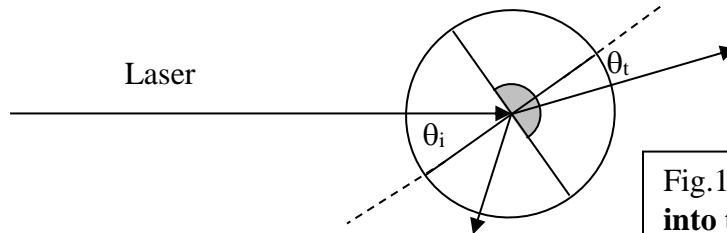

Fig.1. set-up for beam going **into** the denser medium
1. Place the half-cylinder as shown in Fig 1 on the rotation table. *Why is it important to center the half-cylinder on the axis of rotation?*
1. Reset the stage as in figure 1. Only this time you will use a H and He gas lamp with a lens at a distance of roughly 10 cm away from the slit, so that the light forms a sharp image in the far field, 3-4 m away on the wall. Make sure the light travels to the wall at normal incidence--be precise!
2. Rotate the stage in 20° increments and measure the transmission angle for the following gas emission lines H 486.13nm (F) He 587.56nm (d) H 656.27nm (C).